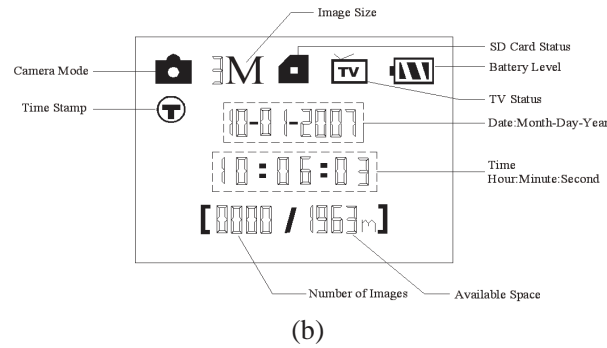

Figure 16: Reset to the default settings
- 1 In MENU, press the UP or DOWN key until Default Set appears, as shown in Fig. 16(a) and 16(1).
- 2 Press the OK key to restore default settings or press the MENU key to cancel and exit. After pressing the OK key, the camera will be back to factory default settings (see Table 1). Fig. 16(b) shows the information after you press the OK key.